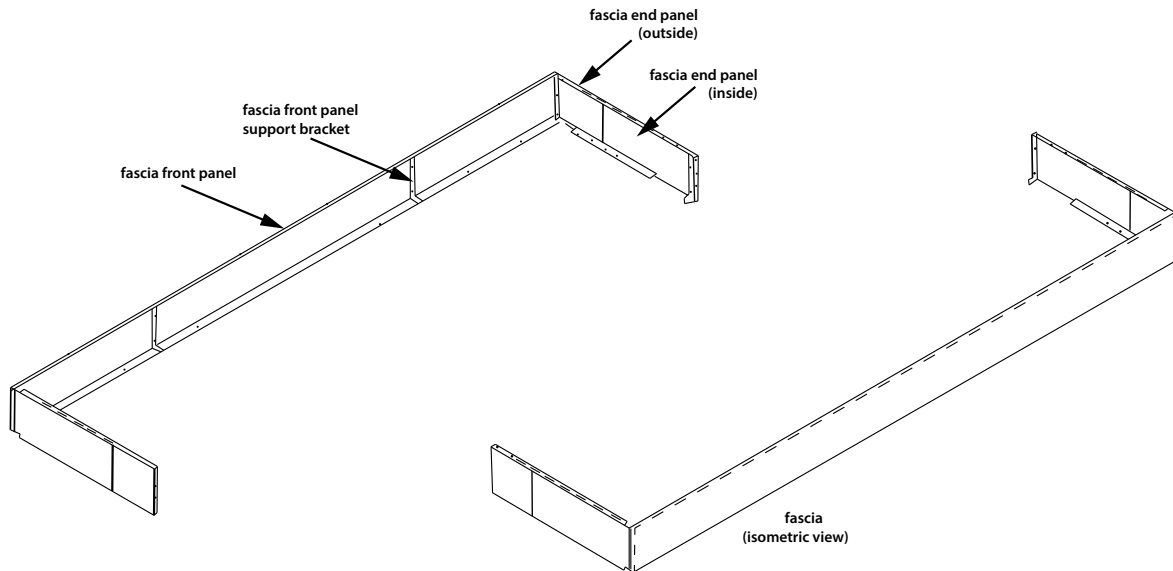

Fig. 32 Fascia Assembly
1. Attach fascia front panel to support brackets (Fig 32)